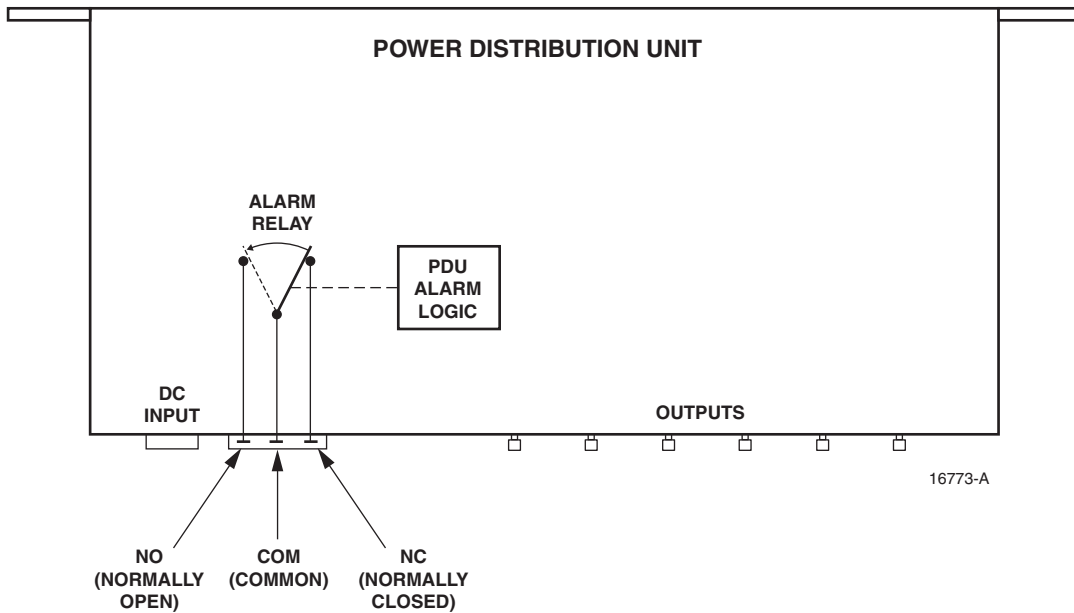

Figure 10. PDU Alarm Logic
2. Connect the alarm cable leads to the base station or site alarm system. Use either “Normally Open” or “Normally Closed” contacts. Figure 10 shows the PDU alarm logic